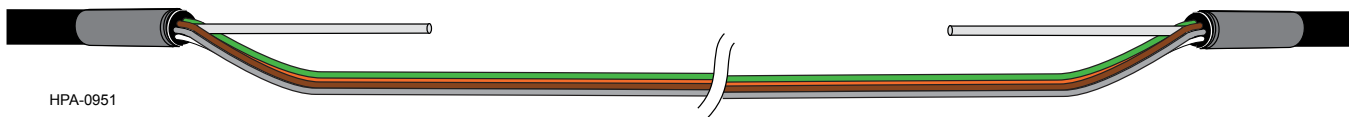

Figure 14
Step 7: Separate the buffer tubes from the central member. Cut the central member at each end of the mid-span (near the tape marks) to the appropriate length for strain-relief. If you will be installing cable strain-relief hardware that clamps into the jacket, place three layers of vinyl tape over the area where the clamps will make contact with the jacket (Figure 14).